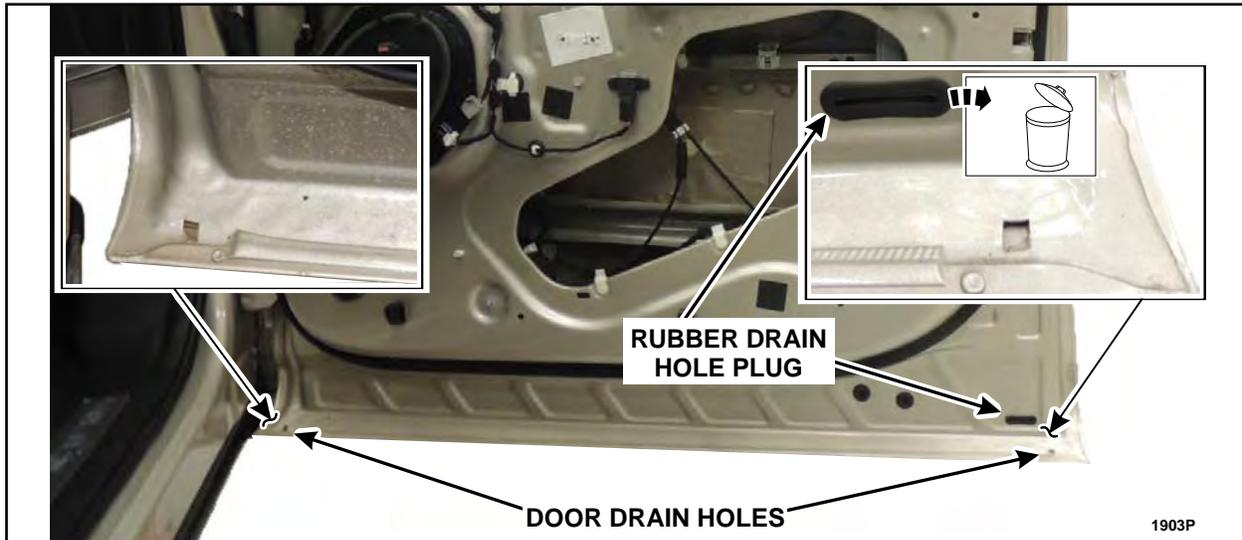

FIGURE 4
6. Remove and discard the rubber drain plug and clean any obstructions, debris, foreign material and residual water from all of the door drain holes using compressed air and a *tool such as a plastic trim tool or a zip tie*. See Figure 4.